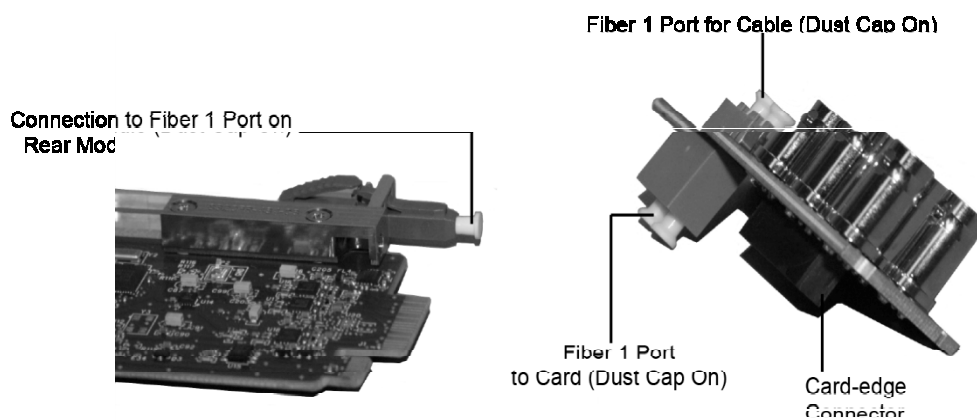

Figure 2.1 Card Connectors with Dust Caps Installed
- Connectors must always be inserted into a device or have a dust cap on. **(Figure 2.1)**